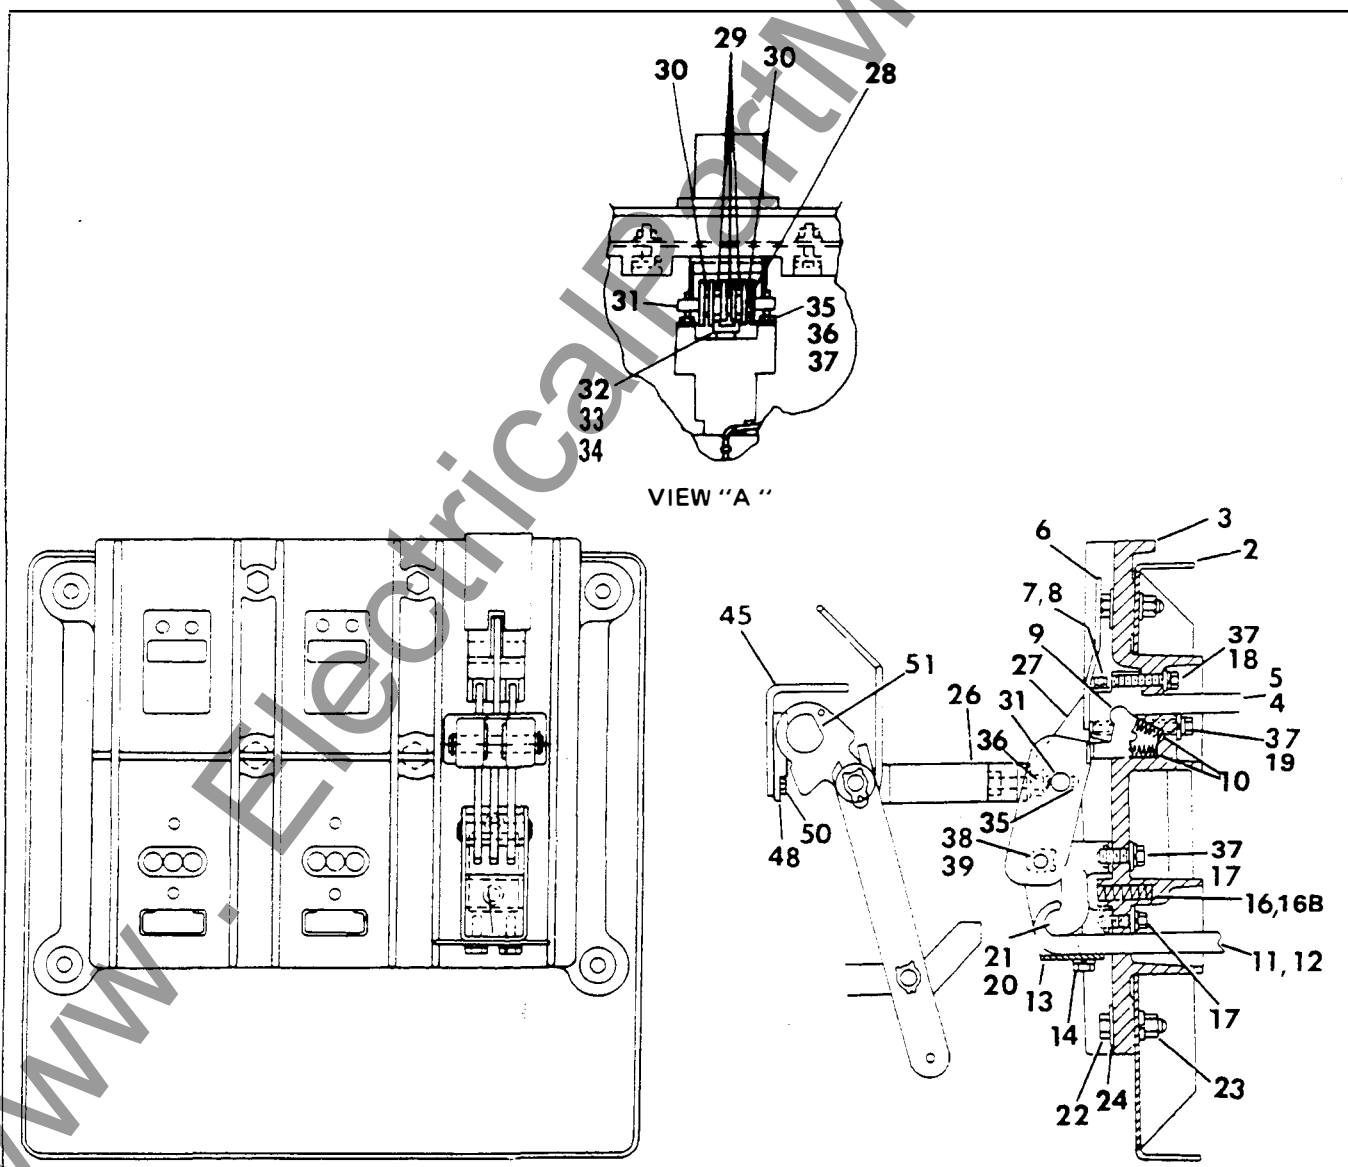

Figure 8. Contact Assembly
with a **normal** closing operation — not maintenance closing. Adjustment is provided by positioning screws (35) after loosening nuts (36). Counterclockwise rotation of screws (35) increases compression. Care should be taken to retighten nuts (36) after adjustment. If it is desired to check contact pressure, a push-type spring scale can be used to compress contact fingers (9) with breaker open. Contact pressure should be between 20 and 30 pounds (9.1-13.6 kg) on each finger. (See Figure 8.)
that the main contact compression be maintained within the tolerance listed in the previous paragraph. Arcing contact pressure should be between 30 and 40 pounds (13.6-18.2 kg) when checked with a pull-type spring scale at the base of the arcing contact tip insert with the circuit breaker contacts closed. Measure each blade separately. (See Figure 8.)
The stationary arcing contact is a part of connector (4) and may be replaced by proceeding as above. In this case, screws (18) must be removed. However, to provide clearance for removal of connector (4), first insert a 3/16" (4.7 mm) diameter rod at least 2" (50 mm) long through the opening in support (13). It may be necessary to compress contact (21) opposite arcing contact (27), in order to insert the rod. This will hold hinge contact fingers (21) in position to permit removal of pin (38). After removal of pin (38), main contact (28), and arcing contact (27) can be positioned so that connector (5) can be removed. (See Figure 8.)
Remove top screw (17) from support (13), and replace it with a 1/4-20 screw at least 1-1/2" long. Remove lower screws and then gradually back off the 1-1/2" screw to relieve the loading from springs (16). The hinge contact fingers can now be removed. To provide easier access to the hinge contact fingers, pin (38) may be removed after the loading is relieved from springs (16). (See Figure 8.)
Remove two screws on each side of lower connector. The complete movable contact assembly may now be brought to the bench. The location of spacers should be noted, if necessary. (See Figure 8.)